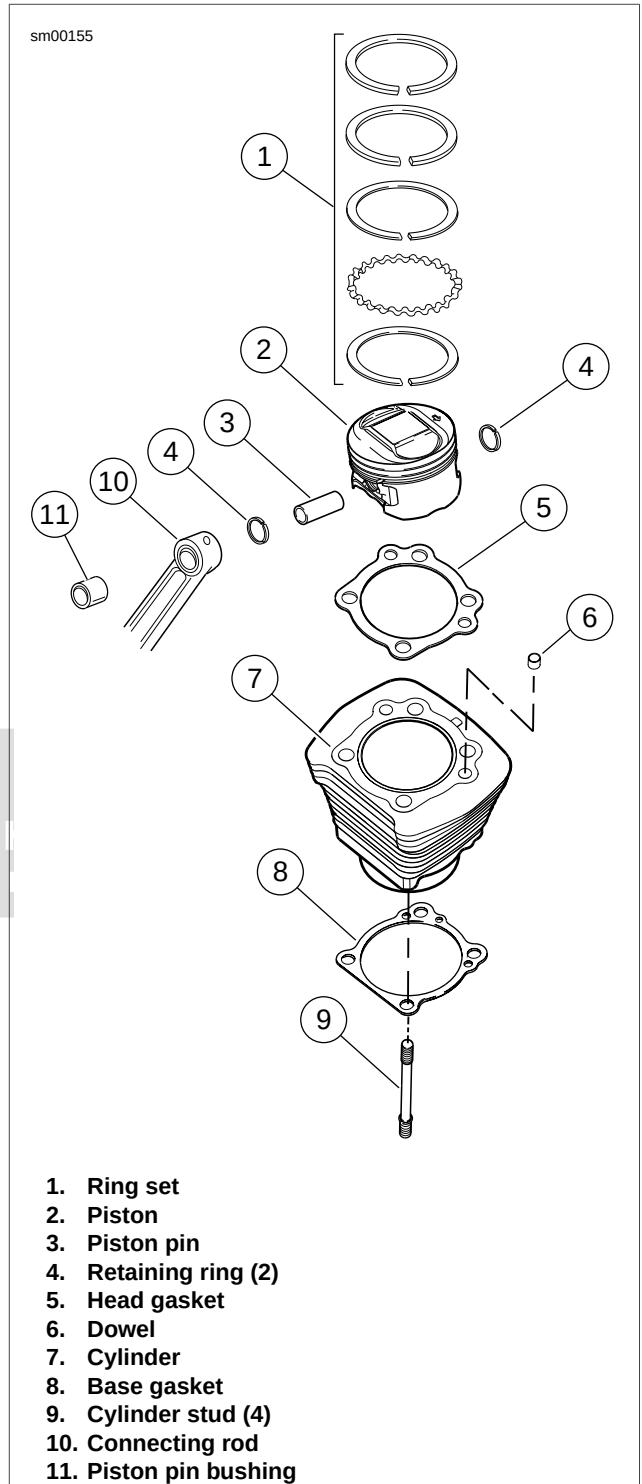

Figure 3-71. Cylinder and Piston
4. See Figure 3-71. Turn engine over until piston of cylinder being removed is at bottom of its stroke.